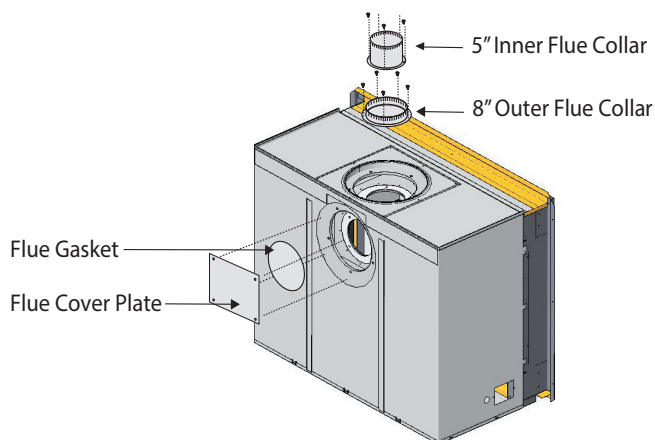

Figure 9. Flue cover and collar removal, Top Vented fireplace.
1. Remove the Rear flue cover and gasket (5" and 8") on the flue outlet, as shown in Figure 9.
outlet, as shown in Figure 9.